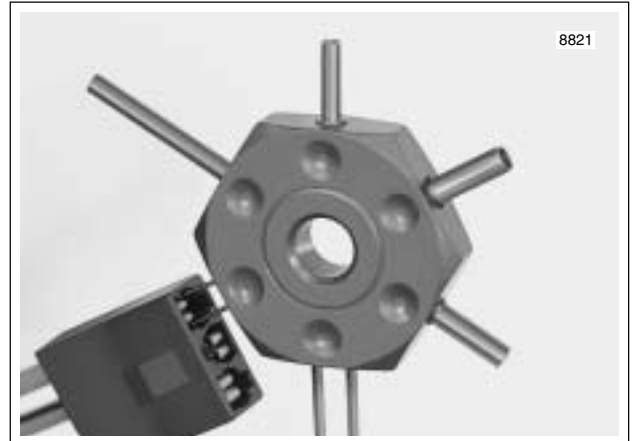

Figure 8-55. Depress Tangs and Remove Terminal
1. Obtain terminal pick (Snap-on® GA500A) like that shown Figure 8-55.